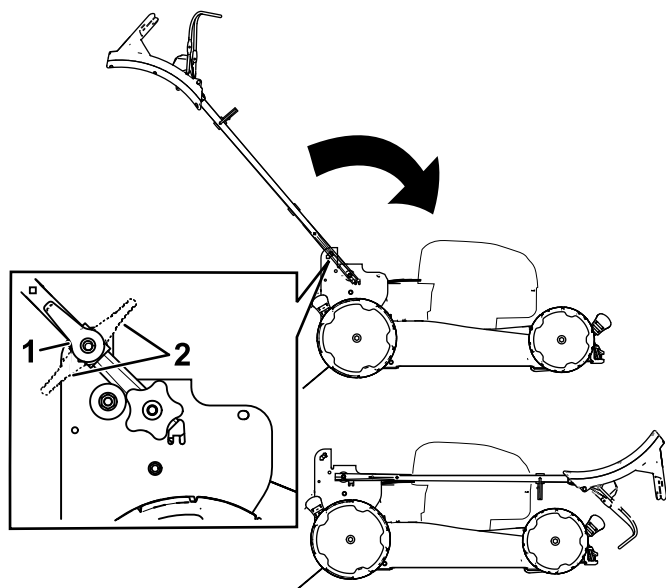

Figure 25
2. Disengage the handle locks (Figure 25).
3. Fold the handle fully forward (Figure 25).